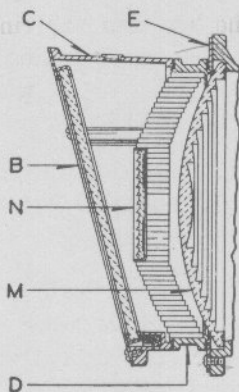

FIG. 2
- (c) Lens "M", Fig. 2, when it has deflecting bull's eye.
(2) Plain center lens, Pce. 178811, is furnished with the inclined cover glass and Phankill unit for this signal, and is to be installed in place of lens mentioned above.
(3) Install ring "E" in place of ring "J".
(4) Install remainder of assembly per A-3. A 10° cover glass should be installed in dwarf signals as described for H-2 and H-5 dwarf signals, see C-2.
A close-up prism "N", Fig 2, is attached to the center of the front of all these "Phankill" units, and can be adjusted by rotation of the entire "Phankill" unit.